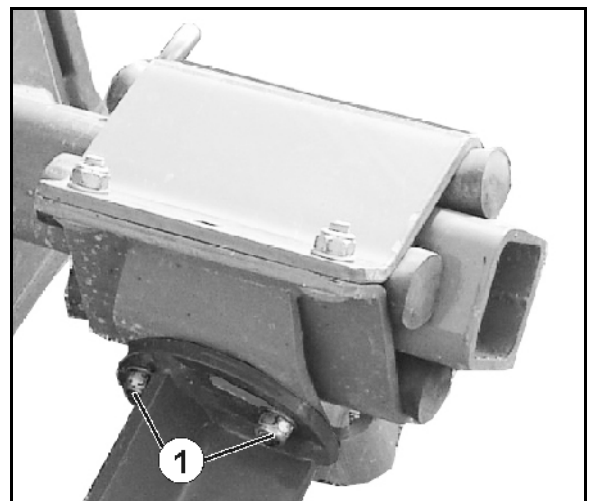

Fig. 62
2. Undo three screw unions (Fig. 62/1).